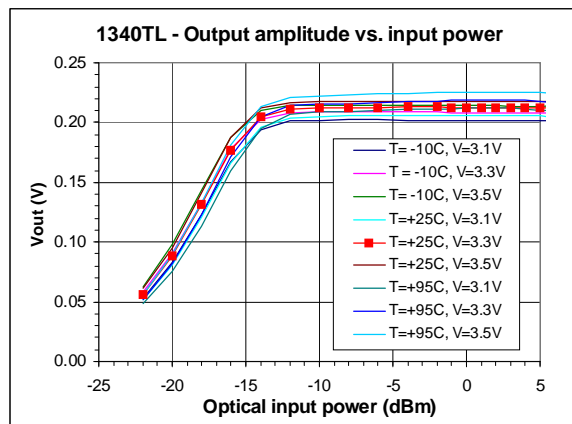

Figure 2. Output amplitude vs. input power. Photodiode responsivity $R = 0.66 \text{ A/W}$, extinction ratio $ER = 13.2 \text{ dB}$
- ¹ Output fully limited for inputs greater than 50 μ App. Refer to Figure 2.